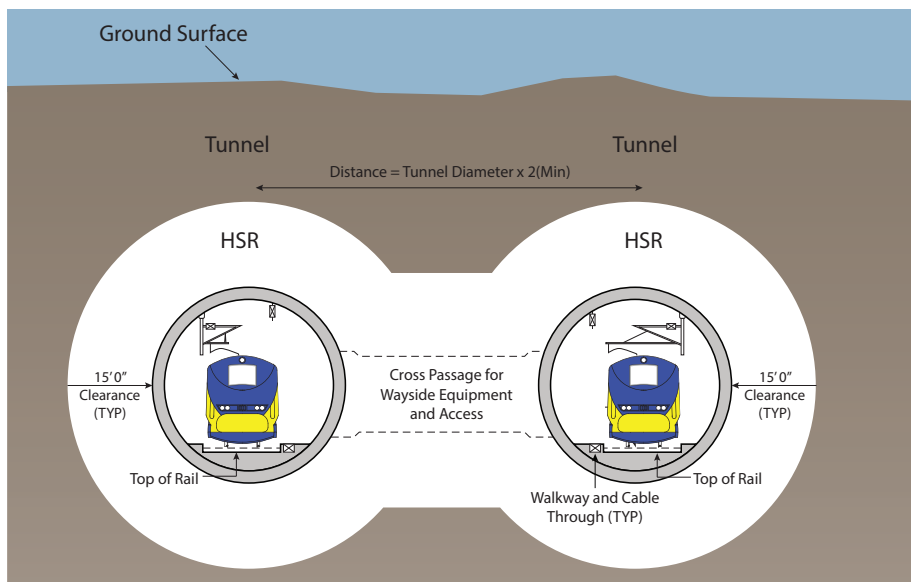

Figure 1. Illustrated cross-section showing the typical configuration of a dual-bore tunnel.
Construction of California’s high-speed rail system will require between 40 and 50 miles of tunneling through mountainous regions in both Northern and Southern California. High-speed trains in Northern California will traverse 15 miles of tunnels through Pacheco Pass in the Diablo Range (Figure 1), a critical link between the San Francisco Bay Area and the Central Valley:
- Typical tunnel configuration is dual-bore tunnels with a single track in each tunnel (Figure 1), although a single-bore with two tracks is also feasible.
Preliminary engineering analyses have identified a TBM as the most likely means of construction of the high-speed rail tunnels in Pacheco Pass. Roadheaders will be used to dig the cross passages (Figure 1), which are constructed at certain intervals to move equipment and for evacuations in an emergency. These methods will be confirmed in a future phase of design, once the contractor has been selected and final design has been completed.